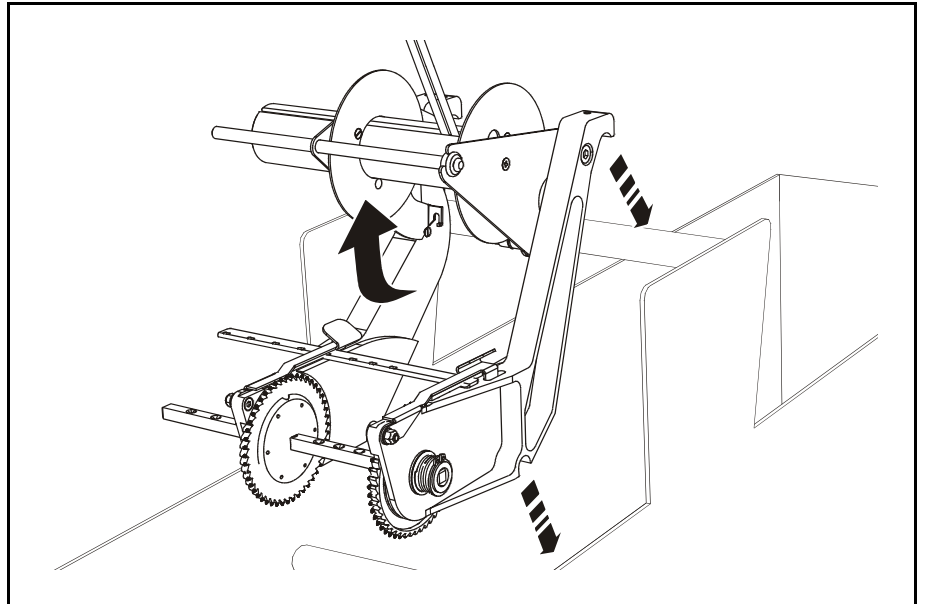

Figure 5-35. Adjustable flex feeder.
1. Raise the cover tape arm when inserting this type of feeder, see Figure 5-35.